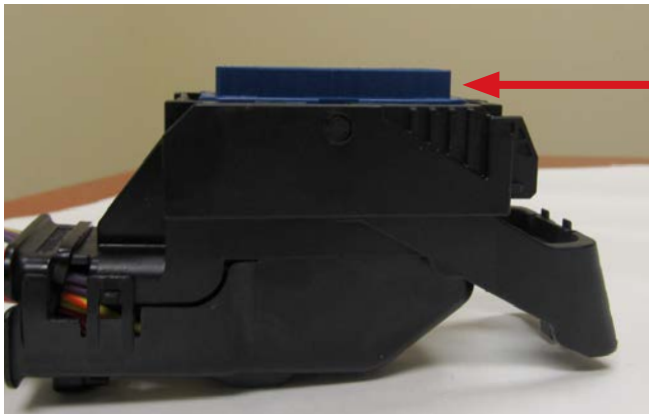

Figure 5
5. Ensure TPA is in pre-locked position. **Reference Figures 5.**